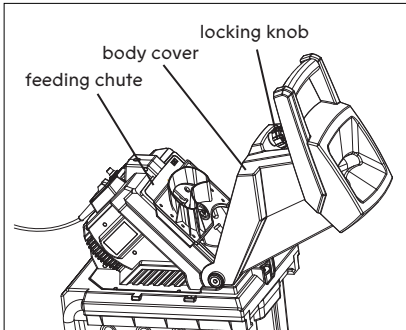

Fig. 7
3. Turn the locking knob counterclockwise until the body cover can be opened. Lift up the body cover to expose the two blades (Fig. 7).